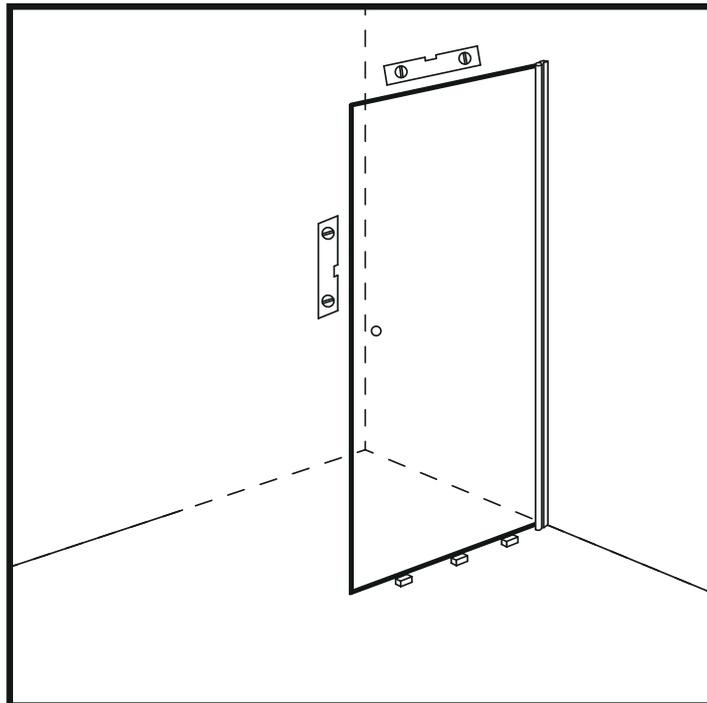

Figure 5
11. Make sure that the glass is properly secured inside the hinge profile and that the edge of the glass is plumb. (Figure 5)